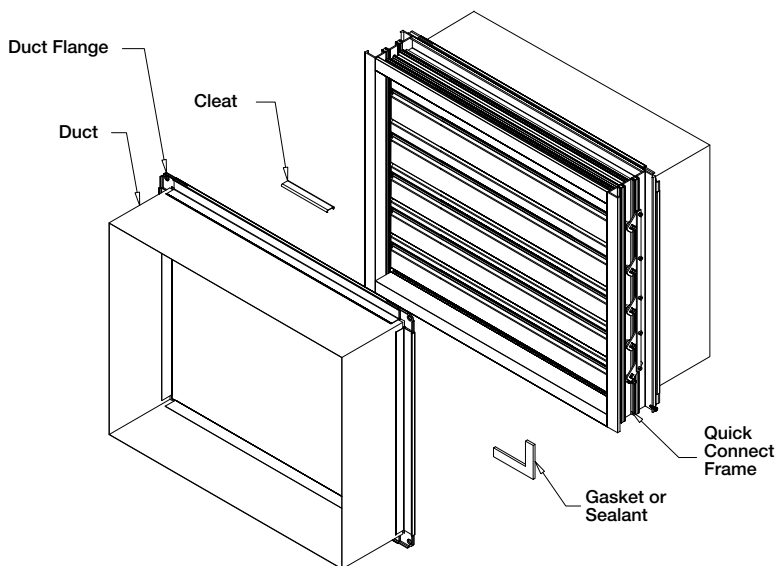

Figure 5: Quick Connect Frame
- To seal the two flange systems together Neoprene or Butyl gasket may be applied to the mating surfaces (Figure 5).